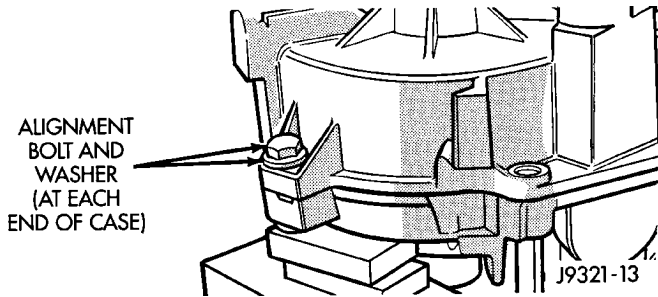

Fig. 24 Rear Case Alignment Bolt Locations
- (1) Support transfer case so rear case is facing upward.
- (2) Remove bolts holding front case to rear case. The case alignment bolt require flat washers (Fig. 24).